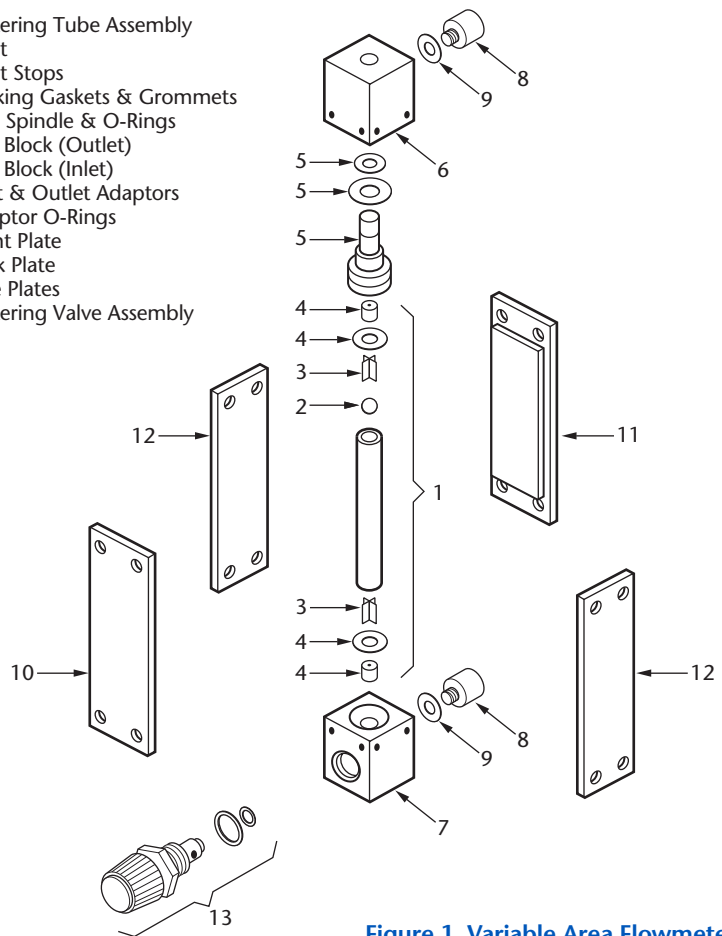

Figure 1, Variable Area Flowmeter
A variable area flowmeter (Figure 1) is a device used for measuring the flow of gases or gas mixtures. Typically, it consists of a glass metering tube (1) which is internally tapered such that the inside diameter at the bottom of the tube is smaller than that at the top. A float or floats (2) placed inside the tube are contained by float stops (3) inserted into the inlet and outlet of the tube. The tube assembly is fitted between the two end blocks (6 & 7) and sealed by packing gaskets (4). The flowmeter assembly is held together by front, back and side plates (10, 11 & 12). Once assembled, the flowmeter tube is tightened against the packing gaskets via a seal spindle (5) to ensure leak free operation. Flowmeters may also be equipped with a metering valve (13) which adds the capability of controlling flow rate.